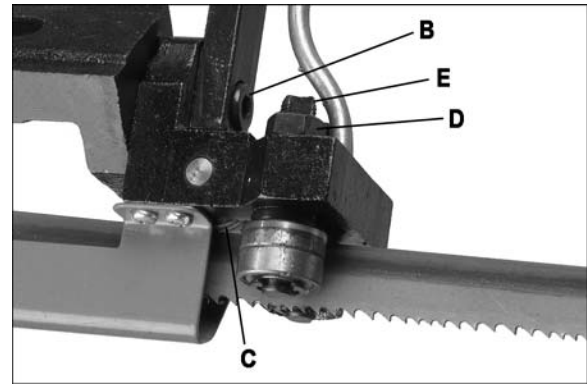

Figure 25
3. Loosen socket head cap screw (B, Figure 25) and adjust guide assembly until back roller bearing (C) is slightly contacting back edge of blade.